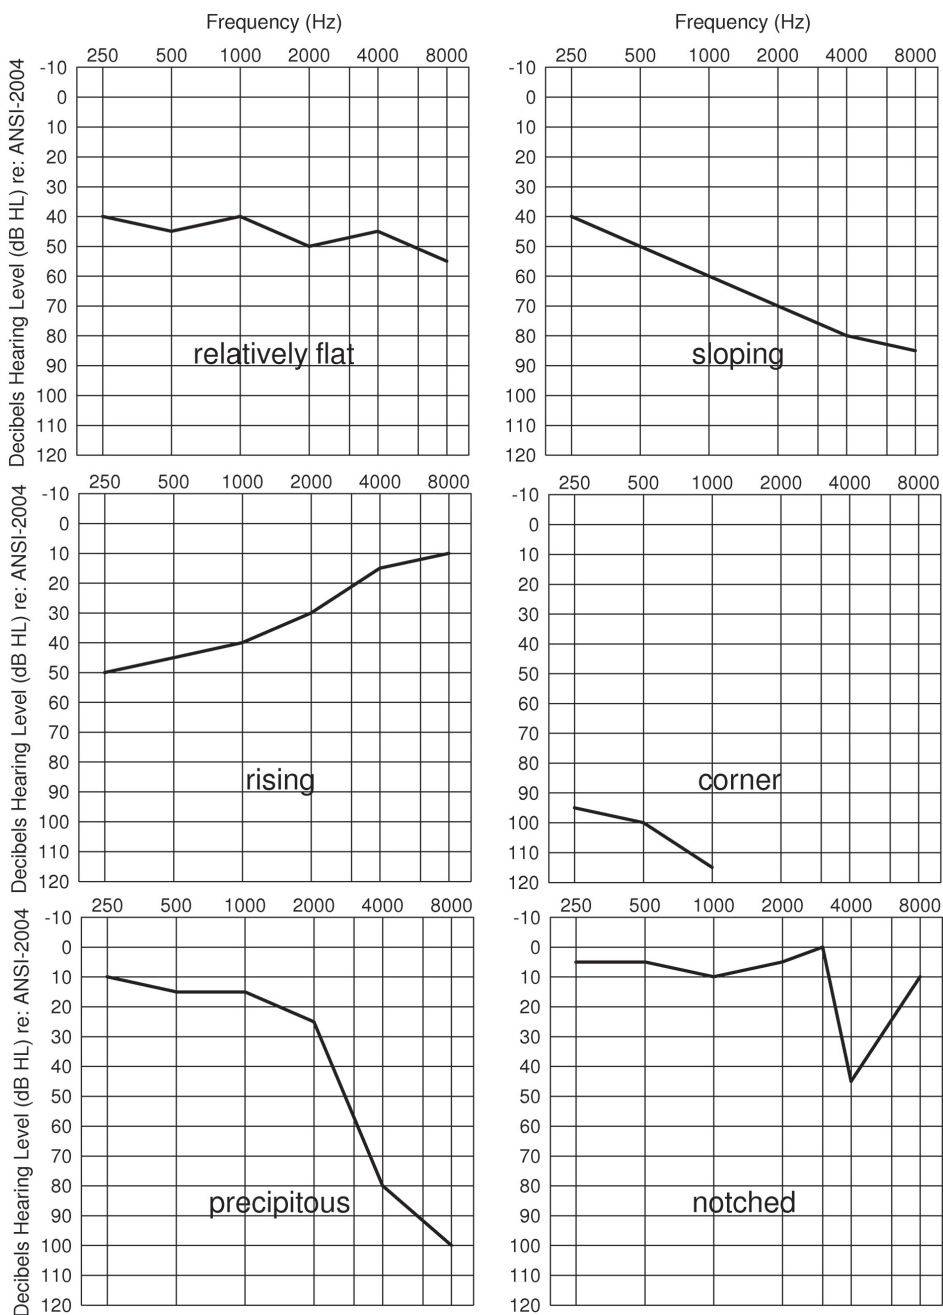

Figure 1–8. Audiogram configurations with common terms used to describe their shapes. See text for definitions of the terms. (From Kramer, 2008, p. 154)
- Noise-notch: A common audiogram configuration for people with hearing loss due to noise exposure. Commonly seen with this loss is what is known as a noise-induced notch, which is a sensorineural hearing loss with maximum loss typically between 3000 and 6000 Hz, as shown in Figure 1–8.